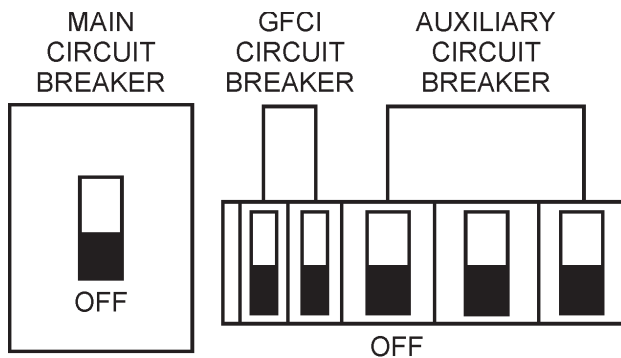

Figure 42. Main, Aux. and GFCI Circuit Breakers (OFF)
1. Place both the **MAIN, GFCI and LOAD** circuit breakers as shown in Figure 42 to the **OFF** position.
3. Place the **MAIN, GFCI and LOAD** circuit breakers as shown in Figure 42 to the **OFF** position.